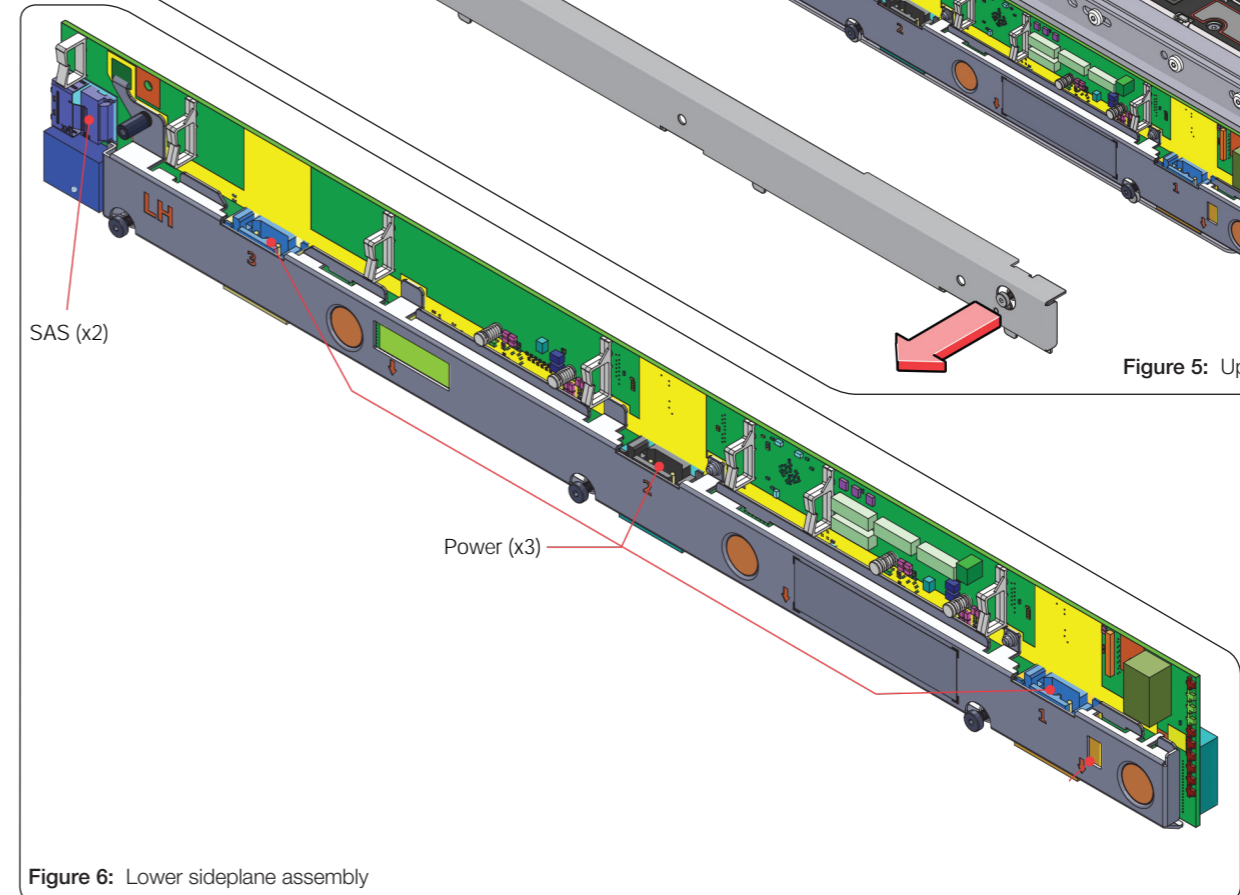

Figure 6: Lower sideplane assembly
2. Gently unclip the 3 power cables and unroute them from the cable retaining clips, allowing the cables to dangle at the rear of drawer (Figure 6).
3. Gently unclip the SAS connectors at the rear of the sideplane (Figure 6).